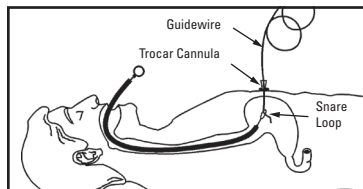

Figure 10
- Pass the tip of the guidewire through the cannula and into the stomach (Figure 10).